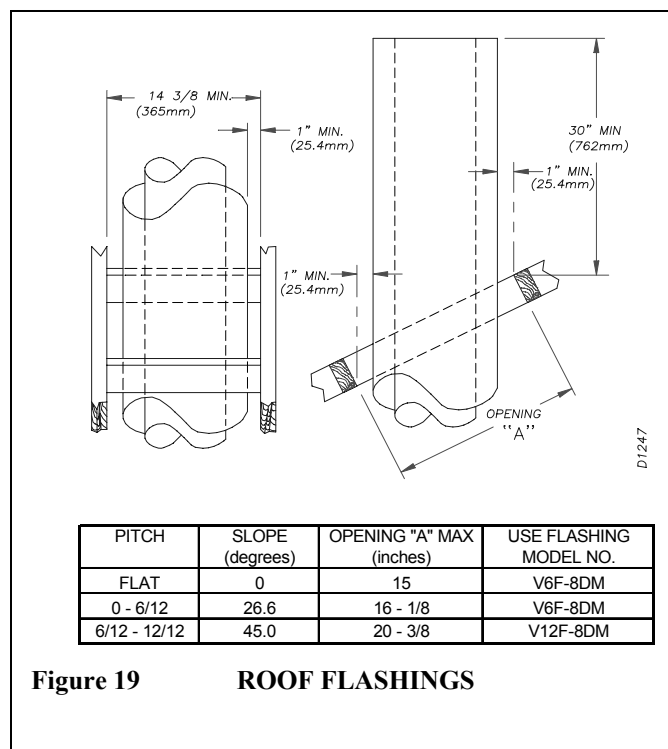

Figure 19 ROOF FLASHINGS
STEP 3: Use the roof-opening chart (see figure 19) to determine the correct opening length and flashing required.